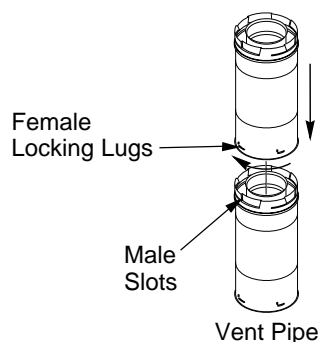

Figure 24 - Vent Pipe Connections
**Twist-lock Procedure:** The female ends of the pipes and fittings have four locking lugs (indentations). These lugs will slide straight into matching slots on the male ends of adjacent pipes and fittings. (All connections must be sealed with high temperature silicone sealant as specified in the second warning statement on page 12.) Push the pipe sections together and twist one section clockwise approximately one-quarter turn until the sections are fully locked. See Figure 24. *Note:* Horizontal runs of vent must be supported every three feet. Use wall straps for this purpose.
2. Assemble the desired lengths of pipe and elbows necessary to reach from the burner system flue up through the firestop. All connections must be sealed with high temperature silicone sealant as specified in the second warning statement on page 12. Be sure all pipe and elbow connections are fully twist-locked (see Figure 24, page 13).